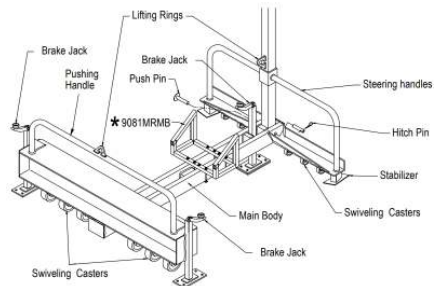

Figure 2
- Lift by using both of the lifting rings provided. (Fig. 2) DO NOT use lifting rings for fall protection